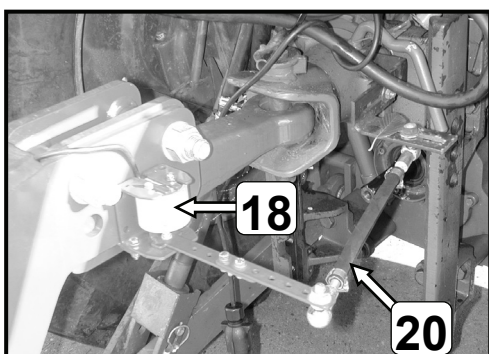

Fig. 9
The both potentiometers (18 and 19) of the *Automatic drawbar - or axle steering* are calibrated in Screen 30 (fig. 9, 10 or 11).
For good functioning of the Automatic drawbar - or axle steering and the Automatic middle position of the drawbar/axle, the middle position of both potentiometers (18 and 19) must be calibrated correctly (fig. 9, 10 or 11).
- Switch to the entry mode by pressing the **OK-key**. The upper value on screen 30 (= value for the potentiometer on tractor side) is blinking (fig. 9). The screen displays an additional value ("0" or "1") between the two other values.
**Remark:** The value "0" means that the automatic mode in the software for the drawbar - or axle steering is activated. When the sprayer is not equipped with *Automatic drawbar - or axle steering* (the front potentiometer is not mounted (18, fig. 9)), the software can be deactivated by entering "1".
The *dead zone* of the potentiometer at the tractor side (18), that registers the angle between tractor and drawbar (fig. 9), is a narrow area around the central position of the potentiometer, in which the potentiometer (18) can be moved by the steer bar (20) without giving a signal to the jobcomputer.
The *dead zone "dz"* of the front potentiometer (18, fig. 9) is factory-set at a value between 8 - 12 and can be modified if necessary, for instance if the drawbar / swivel axle is found to steer too often or too little.
The values for *gnl* and *gnr* allow you to separately correct the steering degree to the left and to the right. Dependent on the tractor type, the sprayer type, the way the steering beam is mounted (20, fig. 9) and the driving speed, it may be necessary to correct the *automatic steering*. At a negative value, the steering responds stronger to a steering pulse. The sprayer will be running more outward (outside the tractor track). At a positive value the sprayer will be running more inward (within the tractor track). Modify these values on the basis of your experience in the field.
- Switch to input mode by pressing the **OK key**; the value on the left (front potentiometer (18, fig. 9) on *screen 31* will be *blinking*.